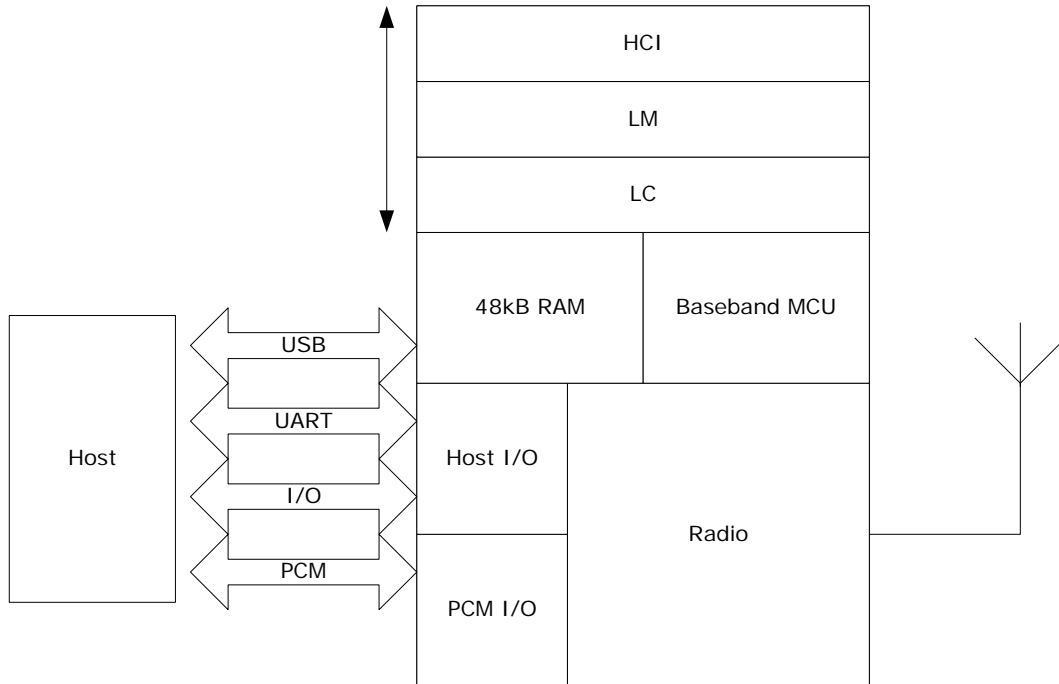

Figure 24: WRAP THOR HCI Stack
In figure 24 above, the iWRAP software solution is described. In this version of the stack firmware shown no host processor is required to run the Bluetooth protocol stack. All software layers, including application software, run on the internal RISC processor in a protected user software execution environment known as a Virtual Machine (VM).
The host processor interfaces to iWRAP software via one or more of the physical interfaces, which are also shown in the figure 24. The most common interfacing is done via UART interface using the ASCII commands supported by the iWRAP software. With these ASCII commands the user can access Bluetooth functionality without paying any attention to the complexity, which lies in the Bluetooth protocol stack.